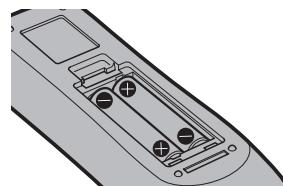

Fig. 2
- 2) Insert batteries and close the cover (insert the "—" side first). (Fig. 2)